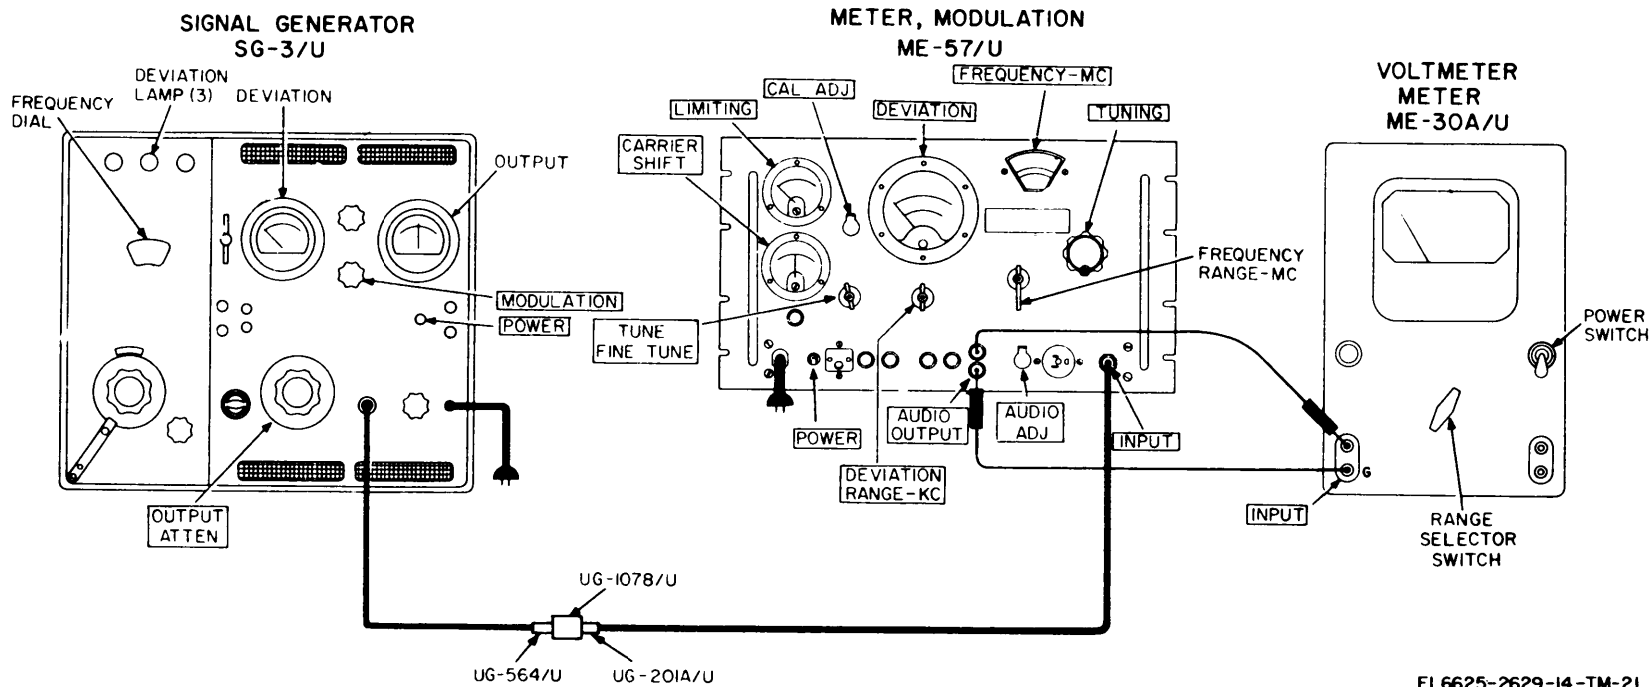

Figure 7-14. Sensitivity check, test connections.
(1) Signal Generator AN/URM-70
(2) Electronic Voltmeter ME-30B/U/
b. Test Connections and Conditions. Connect the equipment as shown in figure 7-14.